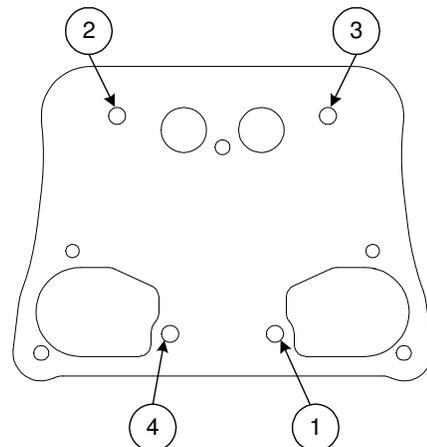

FIGURE 4
9. Following the sequence shown in figure 4, al-